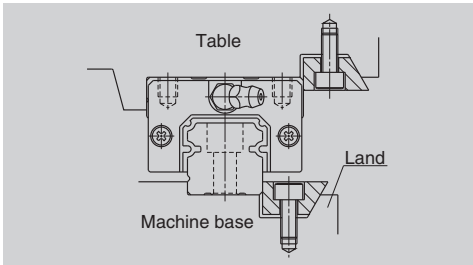

**Fig. 9.18 Easy installation**
- ① Carefully place the reference side rail on the machine base. Then tighten the bolts for installation with specified torque.
- ② Temporarily tighten the bolts on the adjusting side rail.
- ③ Tighten the slides on the reference side rail and one slide on the adjustment side rail with specified torque. Leave the rest of the slide on the adjusting side rail temporarily tightened (Fig. 9.18).
- ④ While moving the table with each pitch of the bolt for rail: With specified torque, tighten the rail mounting bolt which is located immediately adjacent to the slide on the adjusting side rail that had been finally tightened.